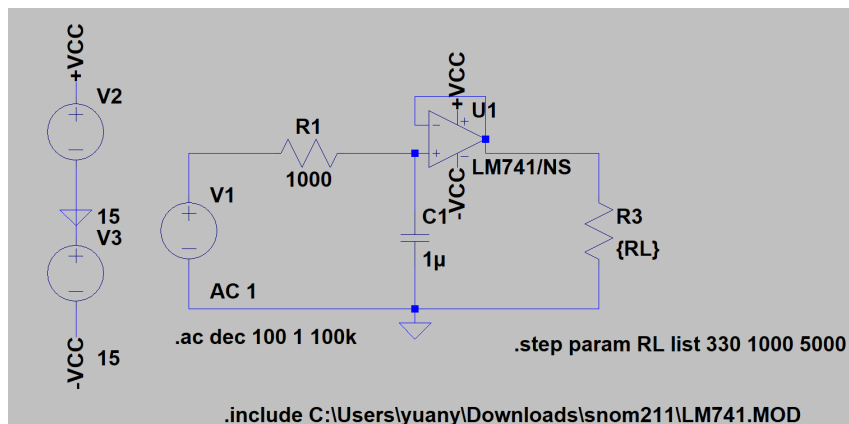

Figure 6: RC filter with opamp
1. Draw the circuit shown in Fig. 6 in LTspice.